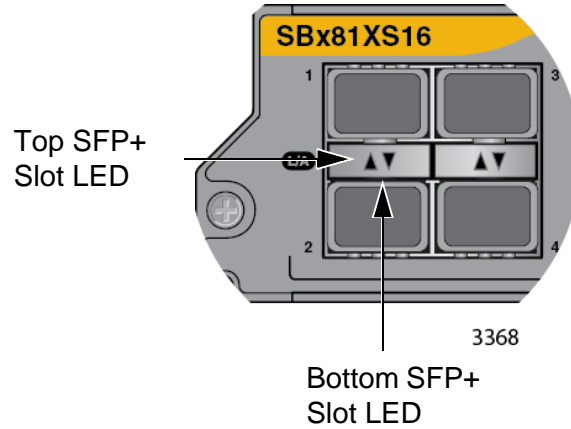

Figure 31. SFP+ Port LEDs on the AT-SBx81XS16 Line Card
**LEDs** The AT-SBx81XS16 Line Card has one LED for each SFP+ port. The LED is shown in Figure 31 on page 58 and described in Table 13 on page 58.